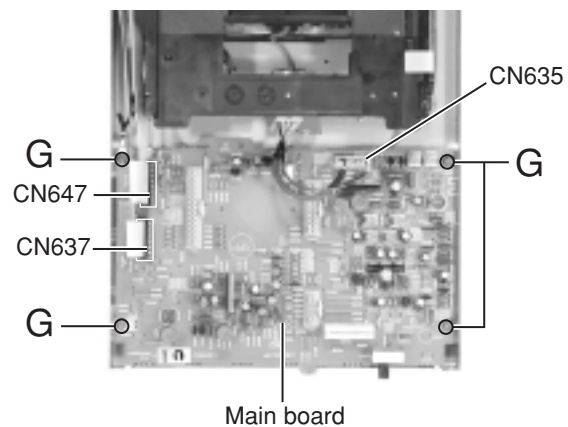

Fig. 10
■Removing the main board (See Fig.10)